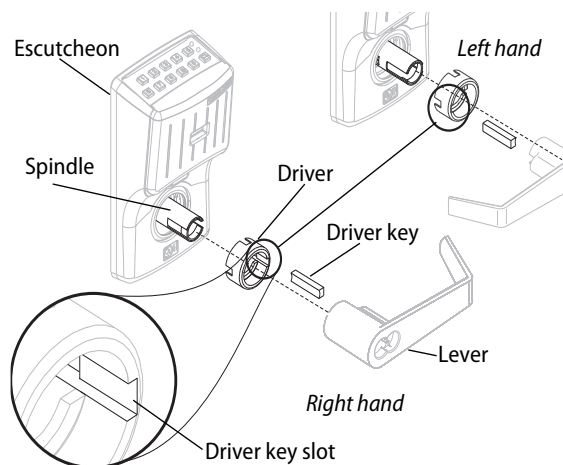

Figure 5 Inserting the driver and key
- 2 Seat the driver over the spindle. The driver key slot should be on the same side as the lever return. See Figure 5.